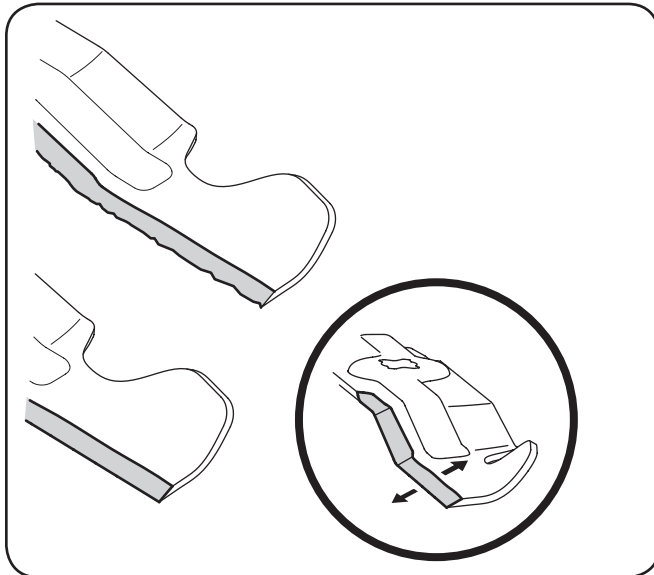

Figure 7-8
- To properly sharpen the cutting blades, remove equal amounts of metal from both ends of the blades along the cutting edges, parallel to the trailing edge, at a 25°- to 30° angle. Always grind each cutting blade edge equally to maintain proper blade balance. See Fig. 7-8.